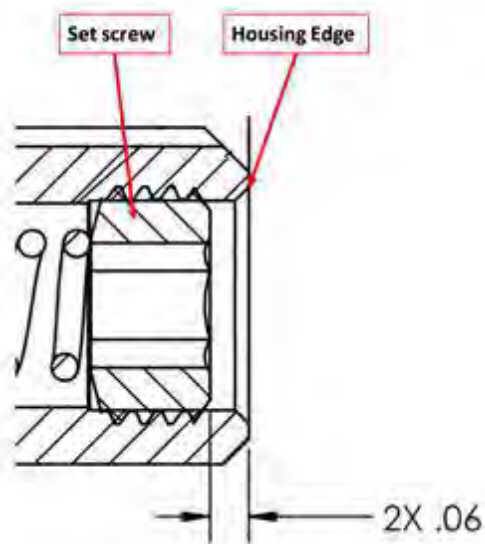

FIGURE 17-14
5. Install the set screw so that the spring is compressed against the ball and the head of the screw is set to a depth of $.06 \pm .01$ below flush (see Figure 17-14).